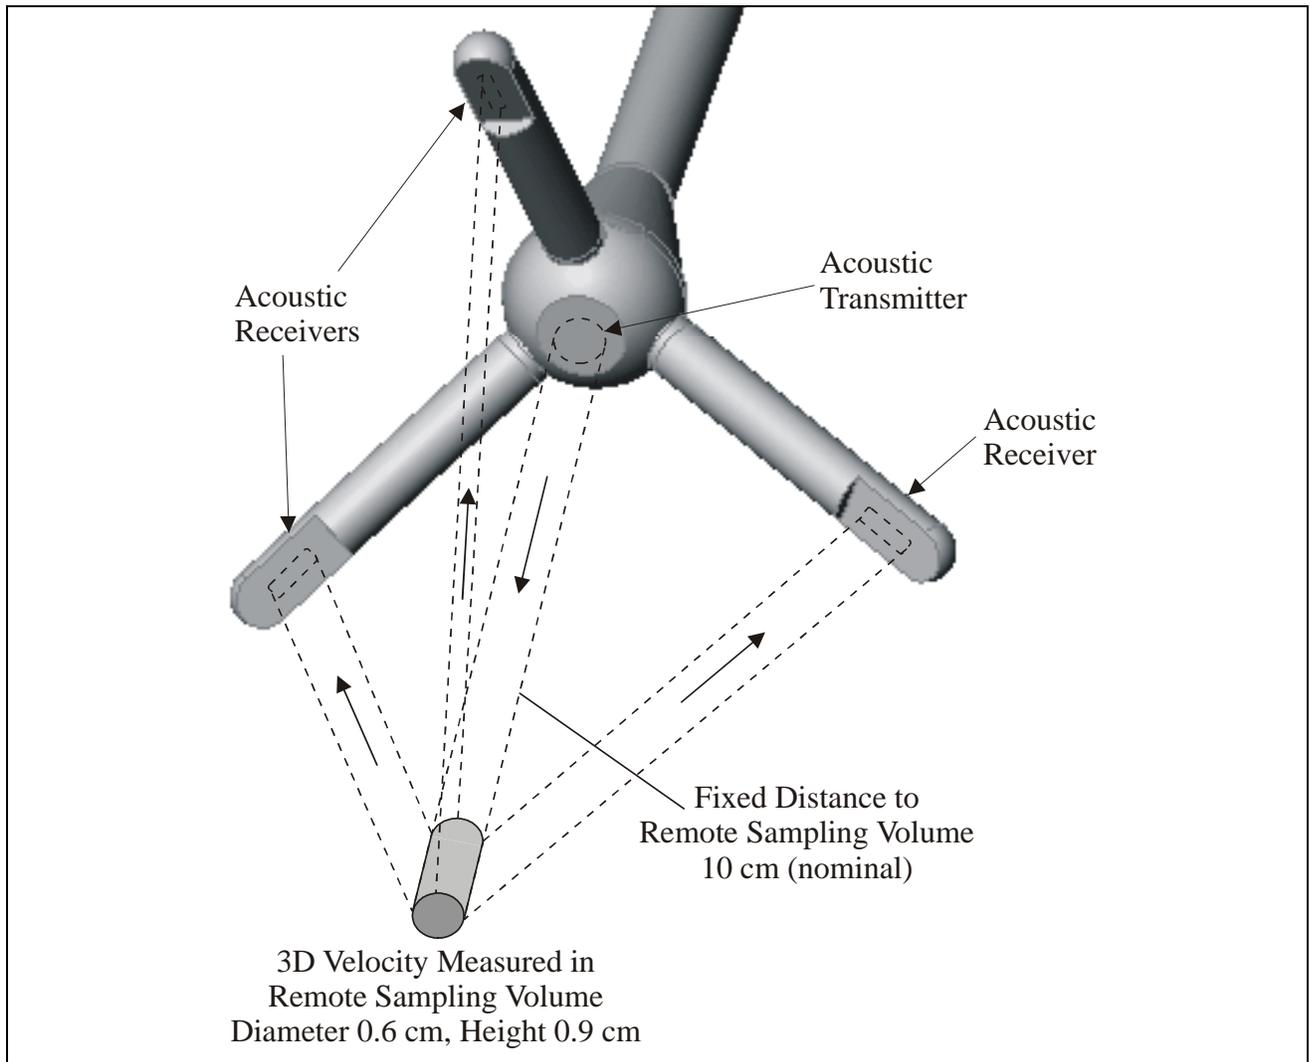

Figure 1 – Triton Probe and Sampling Volume
Figure 1 shows the basic operation of the Triton probe. The Triton is a **bistatic** Doppler current meter.
- The sampling volume is nominally 10 cm (4 in) from the tip of the probe (Figure 1).
- A cylinder 0.6 cm (0.24 in) in diameter by 0.9 cm (0.35 in) long (Figure 1)